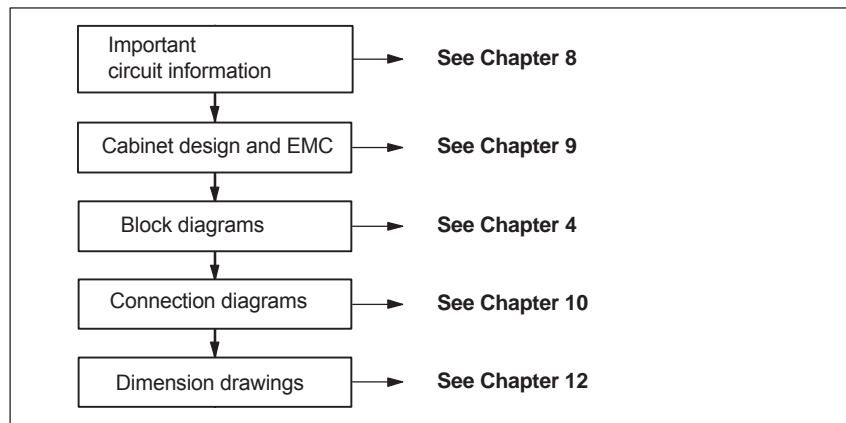

Fig. 1-5 Connecting-up
- Phase 2            Connection configuration            (refer to Fig. 1-5)